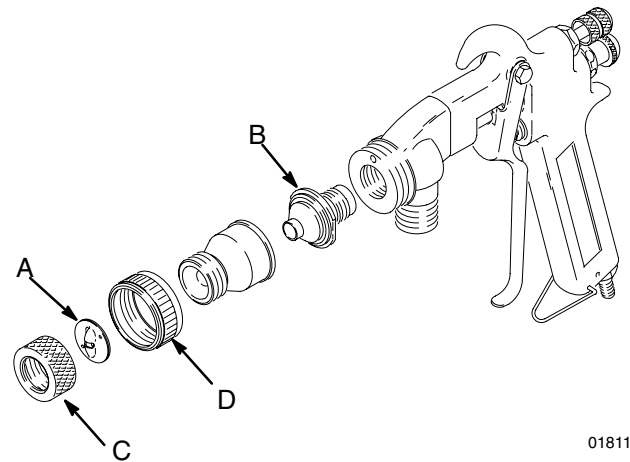

Fig. 6
12. See page 9 for disc and nozzle recommendations. Install the disc (A) and nozzle (B) on the gun as shown in Fig. 6. Tighten the retaining rings (C and D) snugly, but do not use a wrench.
13. Add Throat Seal Liquid, supplied, to the pump wet cup (B) until it is visible at the top of the cup.
14. Check the engine oil level. Refer to the Honda engine manual, supplied. In summary: remove one oil fill plug (E) – the oil should be almost overflowing. Add oil as necessary. Also read the **Maintenance** section on page 12.